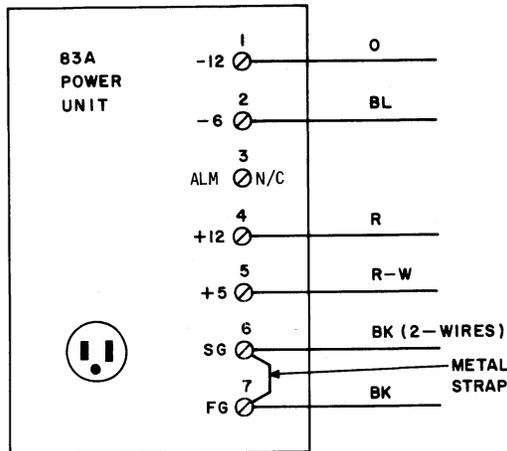

Fig. 24—83A Power Unit—Connection Diagram
**(Fig. 24):** This test requires the use of a suitable voltmeter.
- (1) Remove the 83A power unit from the data set as follows: